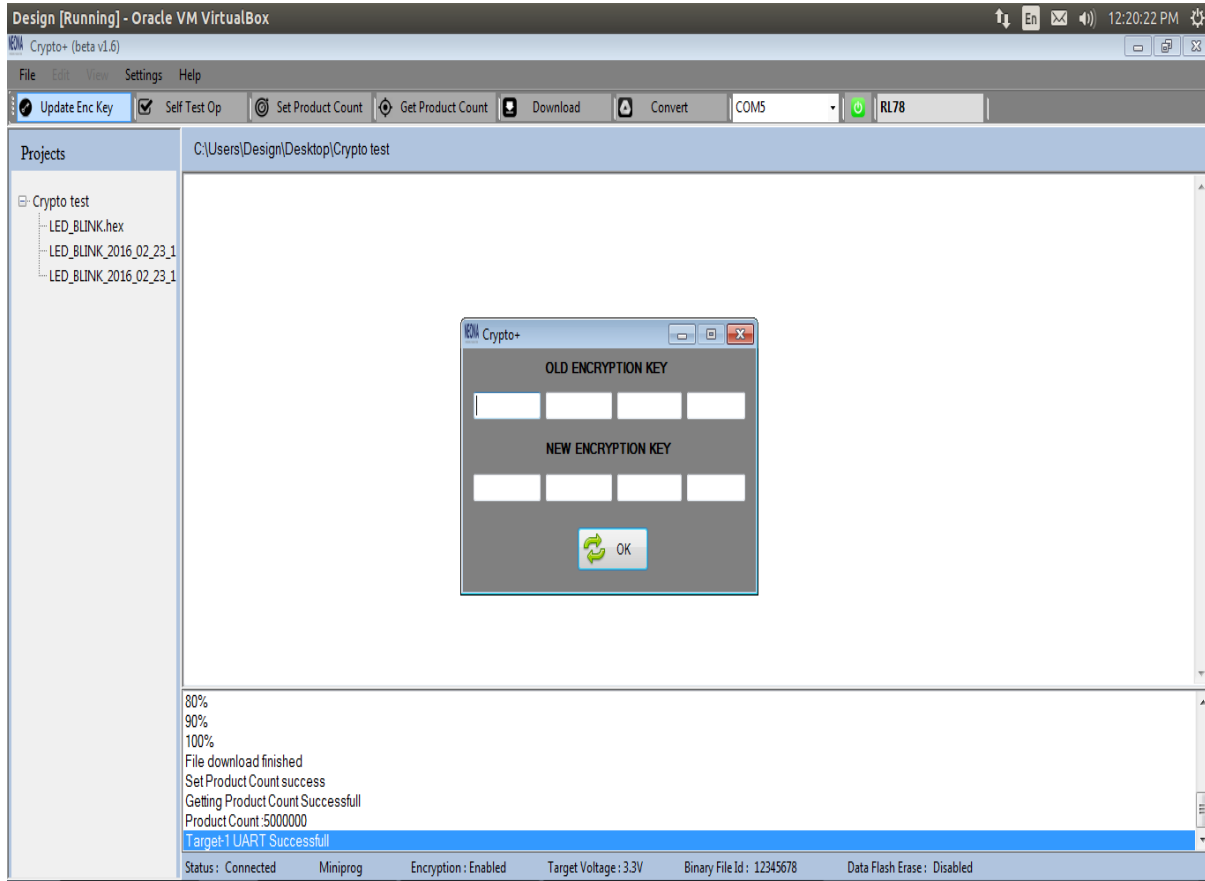

Figure 2.39
STEP 1: Click on **Update Enc Key** as shown in figure 2.39.